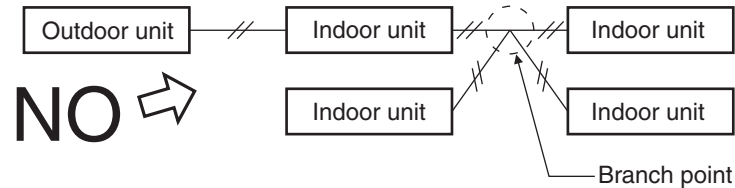

Fig. 4-2
- (3) Do not install inter-unit control wiring such as star branch wiring. Star branch wiring causes misaddress setting. (Fig. 4-2)